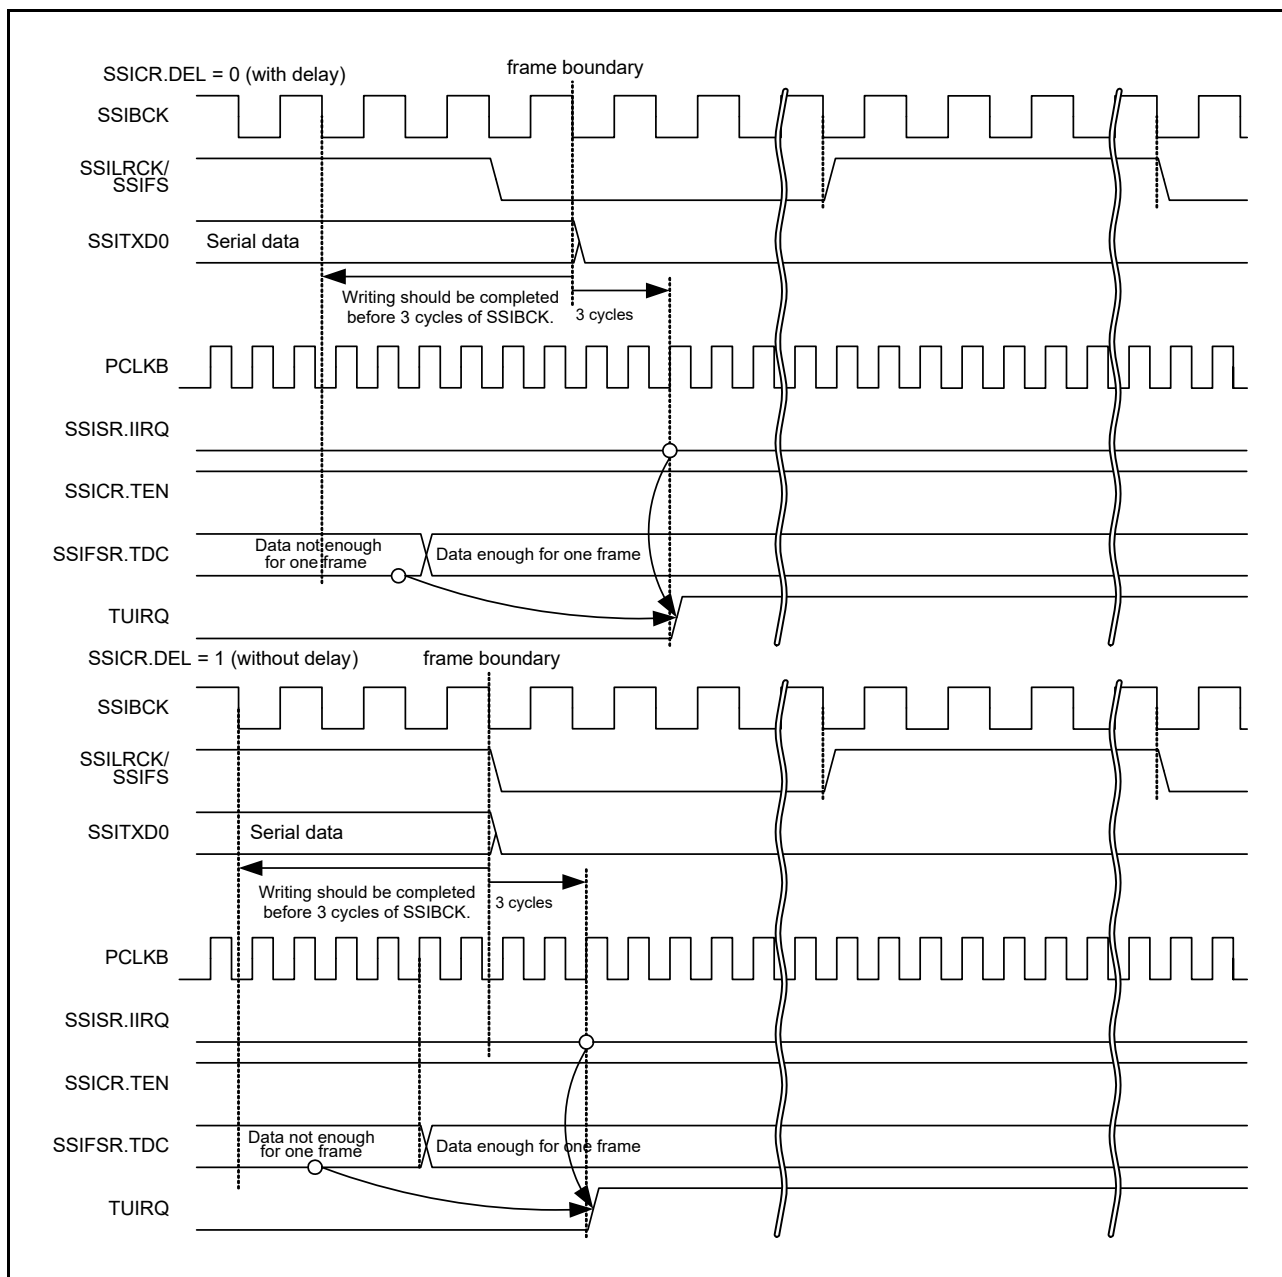
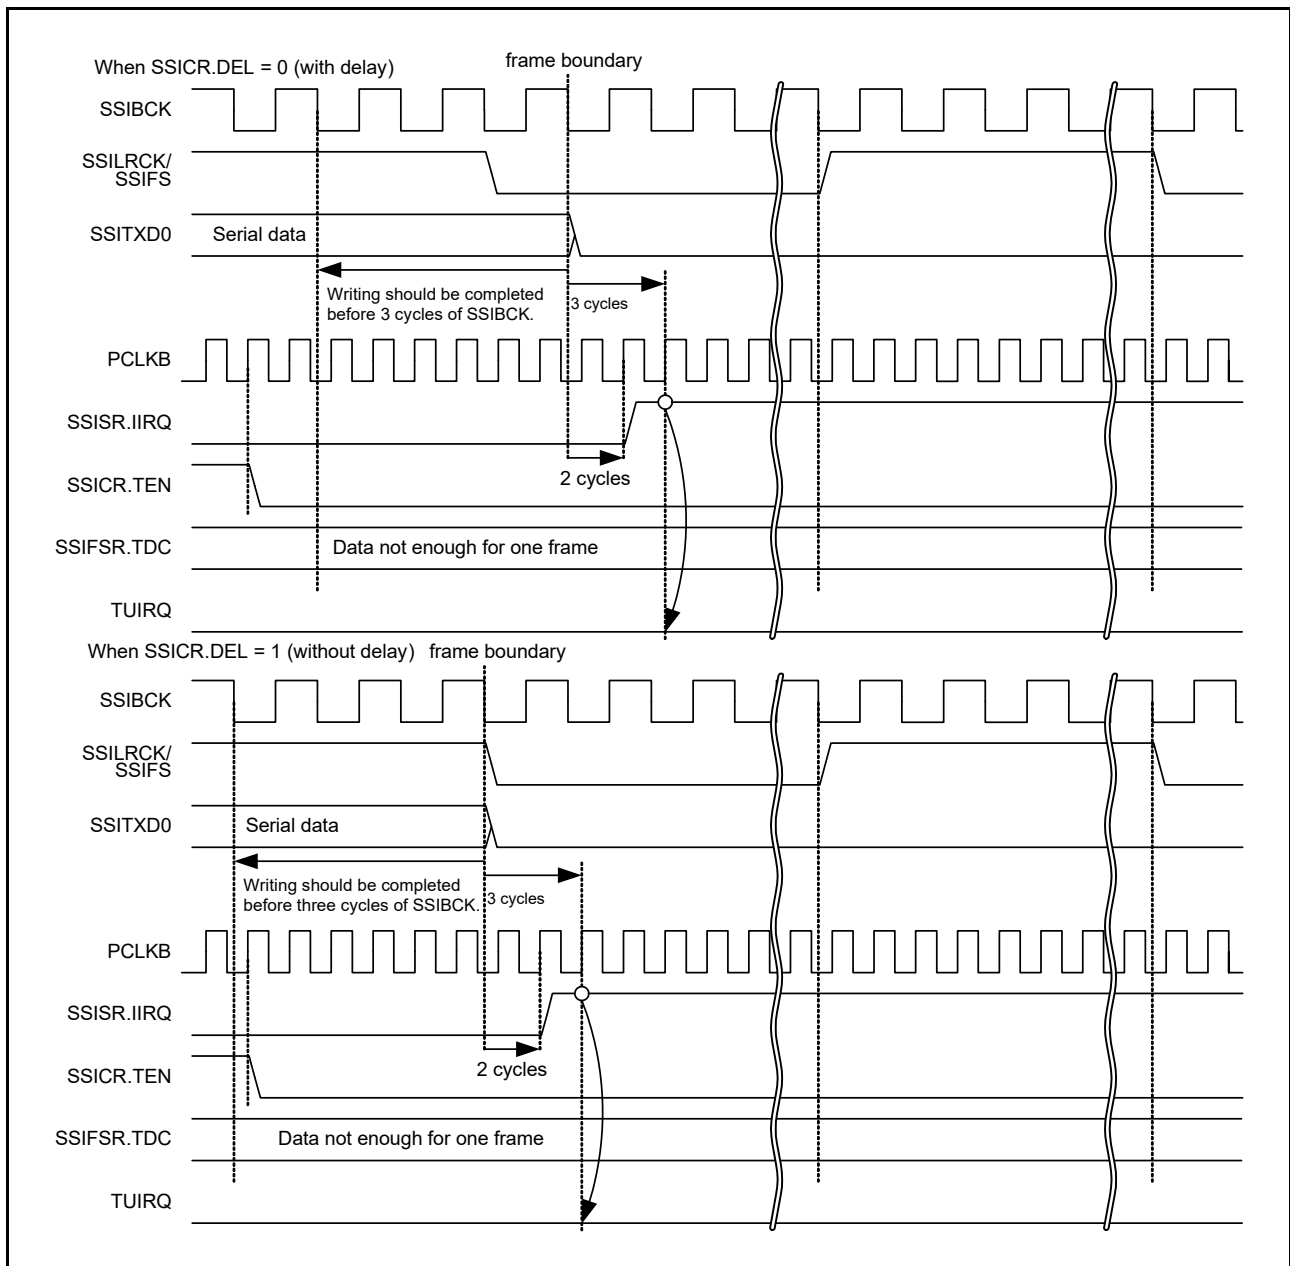

Figure 33.18 TUIRQ setting timing when communication continues
Figure 33.19 TUIRQ setting timing when communication stops
- When communication continues over a frame boundary, the transmit data required for the next frame has not been written to SSIFTDR. For details, see Figure 33.18 and Figure 33.19.
- 3 PCLKB cycles after the frame boundary. For details, see Figure 33.18.